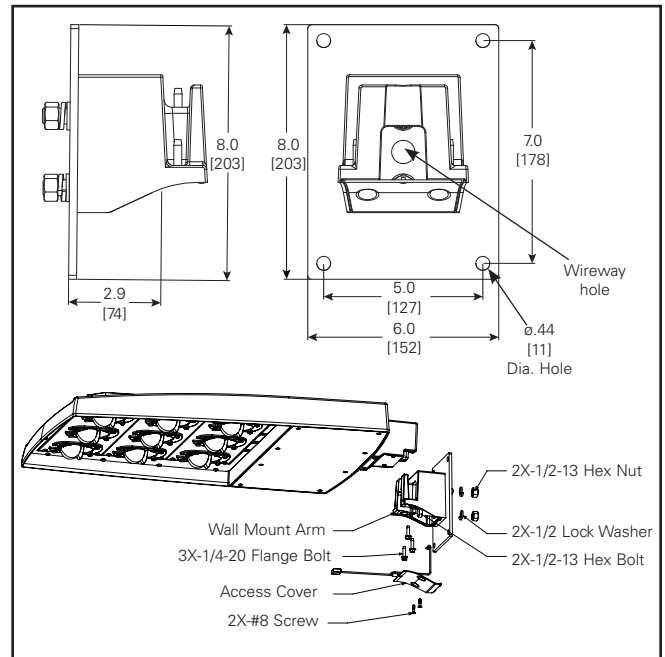

Figure 6.
3. Follow instructions step 3 through 5 from pole mount arm configuration as shown in (Figure 6).